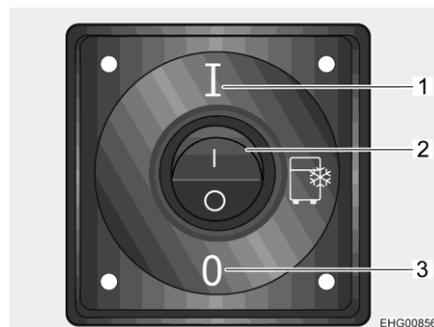

Fig. 54 On/Off switch for icebox
- Set the rocker switch (Fig. 54,2) to the position I (Fig. 54,1).
- Set the rocker switch (Fig. 54,2) to the position 0 (Fig. 54,3).